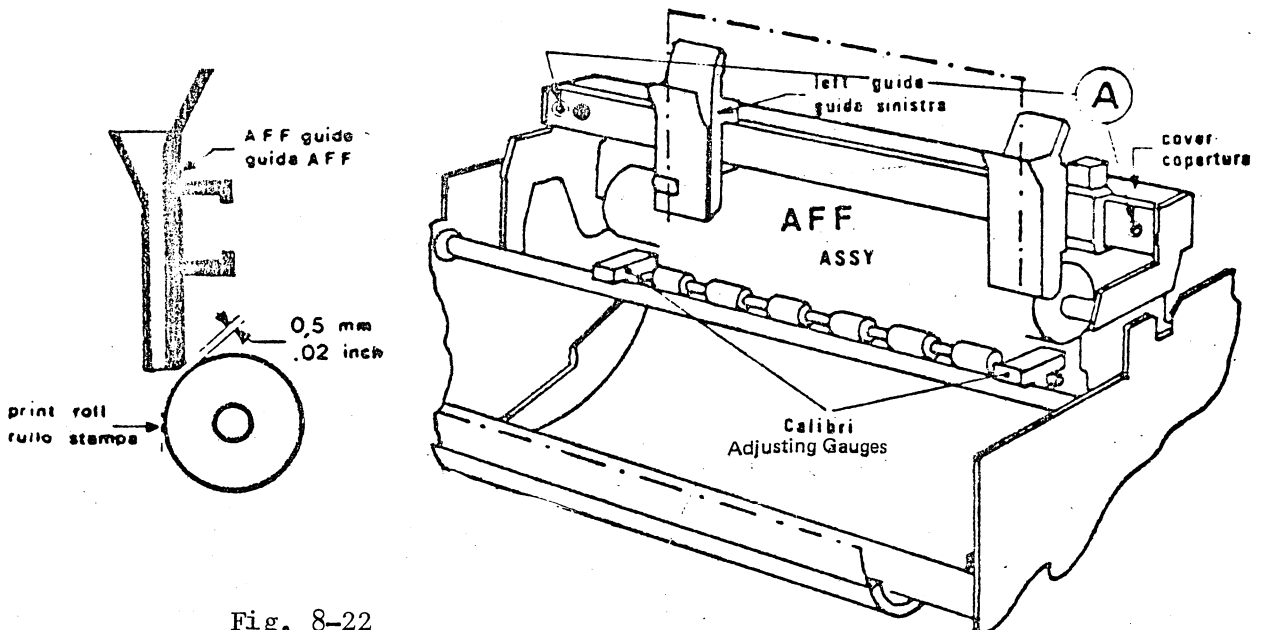

Fig. 8-22
- Fit the two adjusting gauges between the carriage front bar and the roller movable row bar of the AFF (see fig. 8-22)